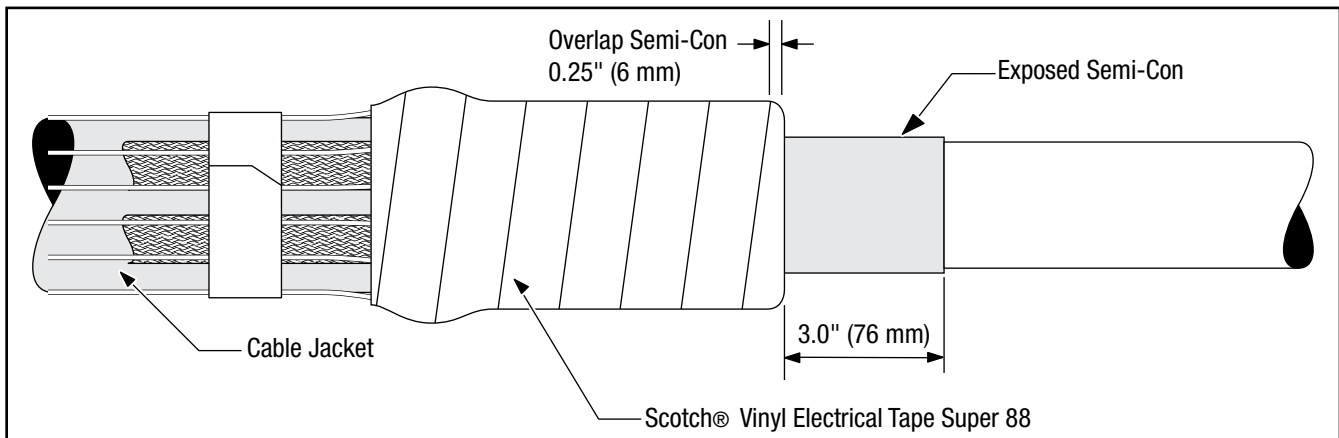

Figure 10
- 2.9 Wrap two half-lapped layers of highly-tensioned Scotch® Vinyl Electrical Tape Super 88 over the mastic seal and constant force springs. Cover all exposed mastic, constant force springs and tape shield, overlapping 0.25" (6 mm) onto the exposed cable semi-con. (*Figure 10*)